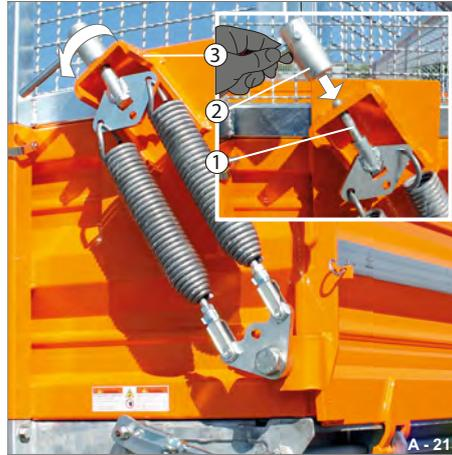

Fig. 127 Suspending/securing lifting springs
- ▶ Lead the threaded bolts (Fig. 127/1) through the holder (Fig. 127/3).
- ▶ Screw on the clamping bolt (Fig. 127/2) and tighten the lifting springs. The lifting springs are suspended and secured.